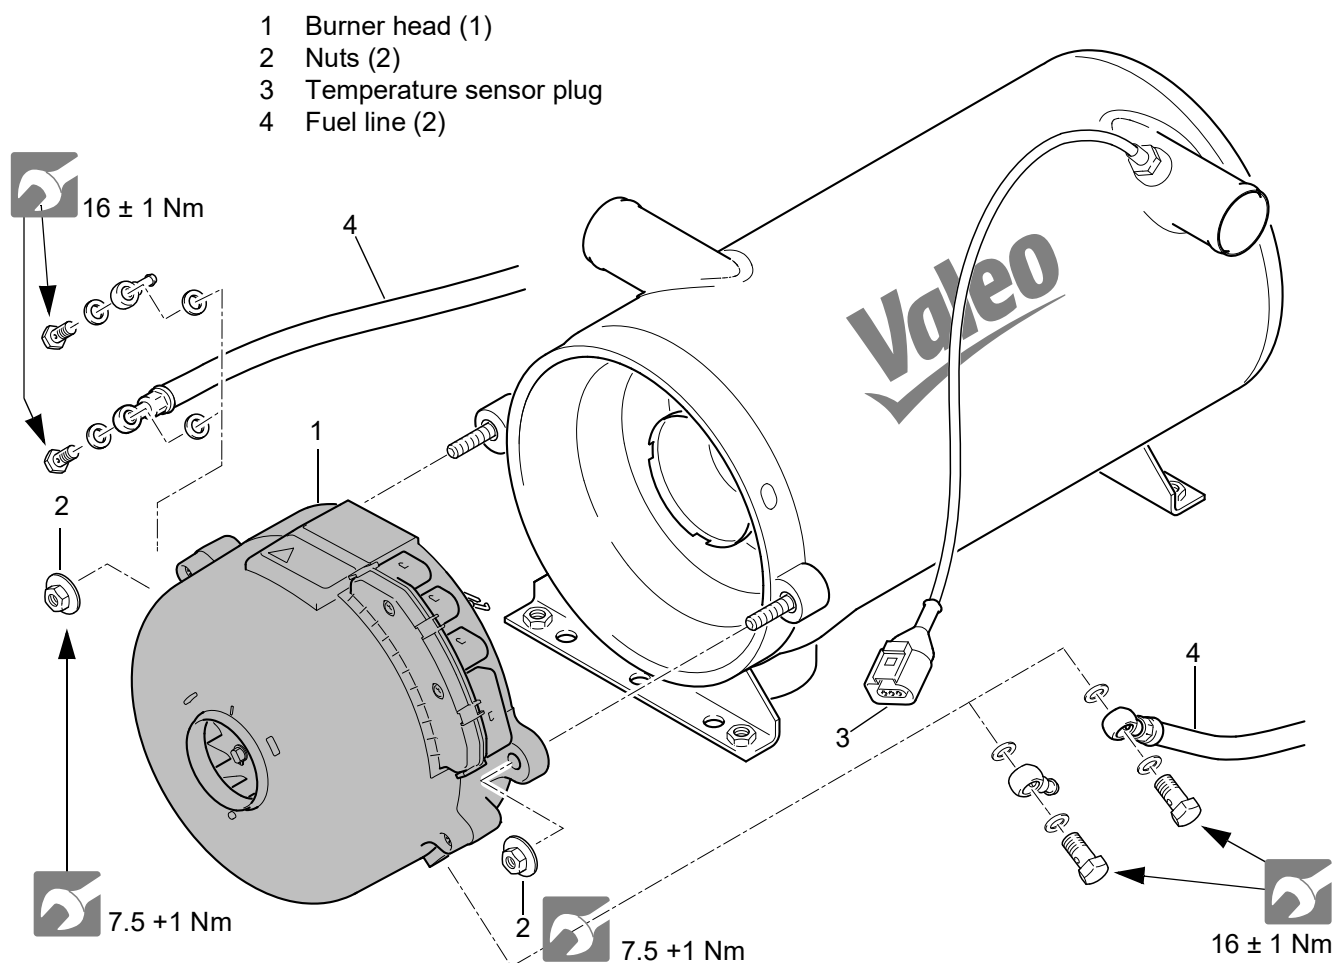

Fig. 801 Burner head removal and installation
6. Unscrew fuel lines (4, Fig. 801) and seal with blank plugs.
7. Unscrew nuts (2).
8. Remove burner head (1).
1. Bring burner head (1, Fig. 801) in assembly position and ensure center alignment and correct fit.
2. Place nuts (2) and alternately tighten them slightly.
3. Tighten nuts (2) with 7.5 Nm + 1 Nm.
6. Connect the temperature sensor plug (T).
7. Connect the plug for the circulating pump (P).
8. Connect the plug for power supply/control (C).
The two combination nuts M8, connecting the burner head and the heat exchanger, must be tightened to torque, see Fig. 801, each and additional are to be secured using thread lock.
2. Disconnect the temperature sensor plug (3, Fig. 801).
2. Tighten the temperature sensor (1).
3. Connect the temperature sensor plug (3, Fig. 801).